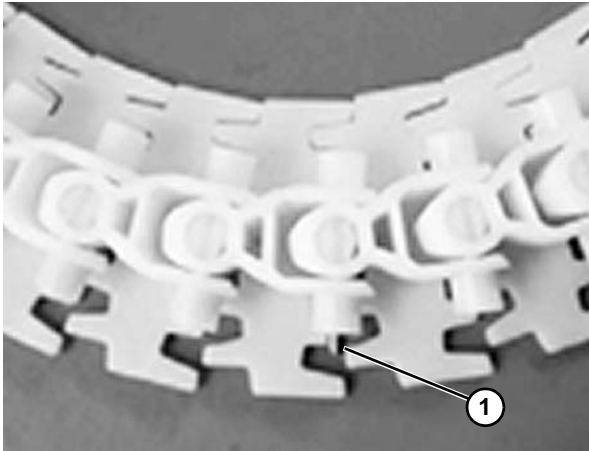

Figure 53
4. Check that the chain is flexible in the joint and that the pin does not stick out or go through the other side (**Figure 53, item 1**).